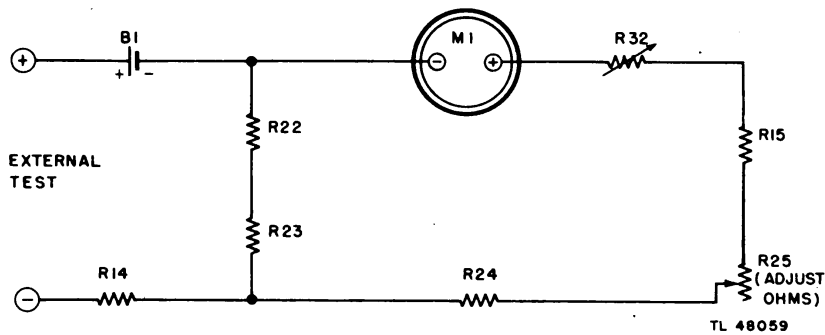

Figure 5. Ohmmeter circuit using 600,000 ohms range.
e. Ohmmeter. A simplified schematic diagram of the ohmmeter circuit for the lower ranges is shown in figure 5. The high ohmmeter range (0-60 megohms) is essentially the same except for the use of a 22.5-volt battery and an additional series resistor.